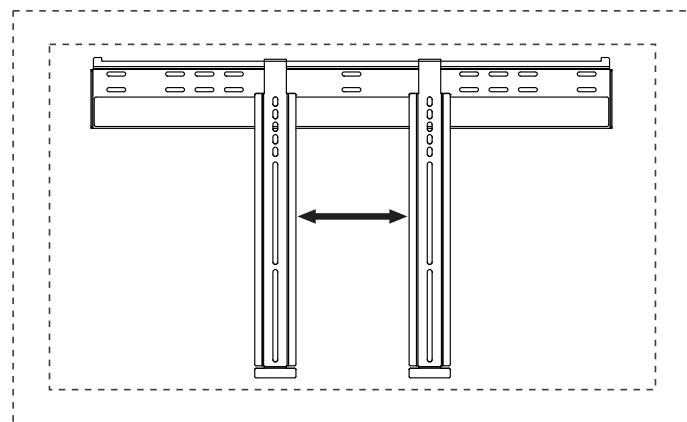

fig. 3.2
- 3** Guide hooks of adapter brackets (**B**) onto flange of wall plate (**A**). Then slowly swing screen toward wall as shown in fig. 3.1. Gently press on screen to ensure velcro strips are engaged as shown in detail 1. To horizontally adjust screen, swing screen away from mount to disengage velcro, and slide screen along wall plate to desired position as shown in fig 3.2. Then slowly swing screen toward wall to re-engage velcro.